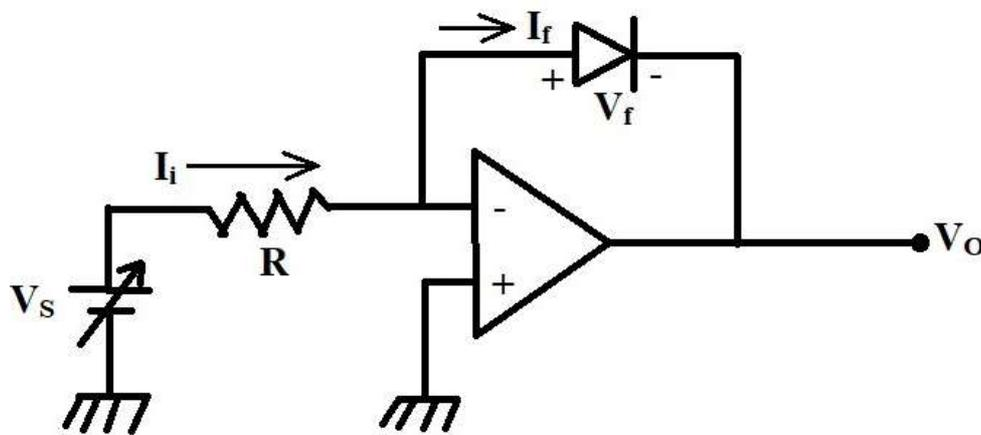

Fig. 1.1: A logarithmic amplifier using Diode
From fig.1.1 shows the circuit diagram of a logarithmic amplifier whose output is proportional to the logarithm of the input voltage. we can write
1. Construct the circuit of Fig. 1.1 preferably on a bread board. Choose a resistor as R. Any ordinary diode can be used. Take V_S as 0-1 volt variable dc source.